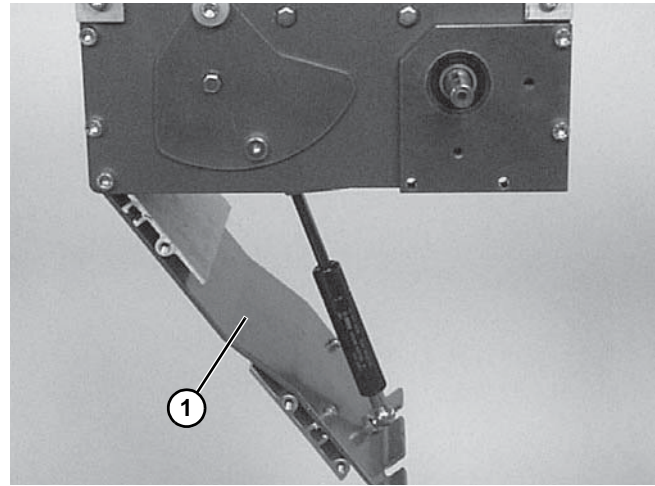

Figure 65
- Carefully close the drive module tension door (Figure 65, item 1). See WARNING.